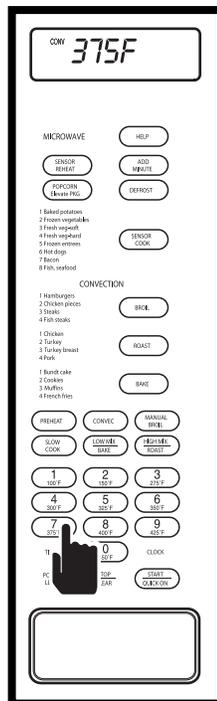

Figure 3-78.
4. Enter desired cooking temperature. Press number 7 key, "375F - ENTER - COOKING - TIME" will flash on display. (See Figure 3-78)